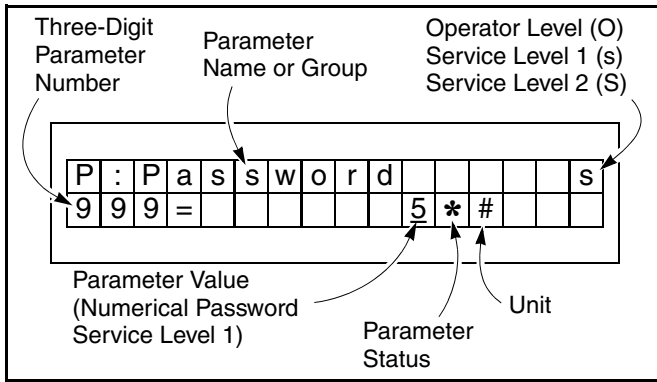

Figure 25
3. Enter the password by first pressing the up (▲) or down (▼) key until the numerical password required for the desired service level is displayed. (See Figure 25.)